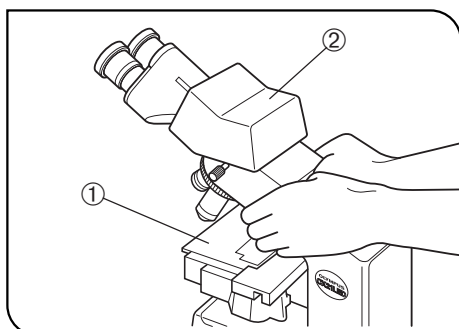

Fig. 1
5. When carrying the microscope, first make sure that the AC adapter has been disconnected and hold both sides around the hole of the arm as shown in Fig. 1 and carry carefully.